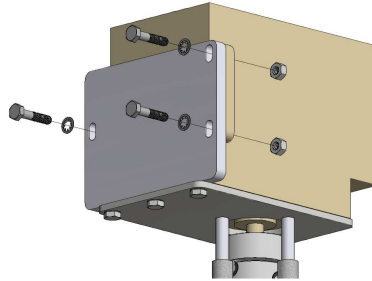

Figure 5: Actuator Installation
5. Set the actuator on top of the actuator mounting bracket. The splined shaft should slide into the coupling bushing. If it does not, slightly rotate the coupling bushing one way or the other so that the shaft slides in while keeping the groove in the bushing between the two lines on the top of the coupling. Using the (2) 7/16" open-end wrenches, the (3) 1/4"-20 x 1-1/4" hex head cap screws, (3) 1/4" internal-tooth lock washers, and the (3) 1/4"-20 hex nuts, secure the actuator to the actuator mounting bracket as shown in Figure 5 below.